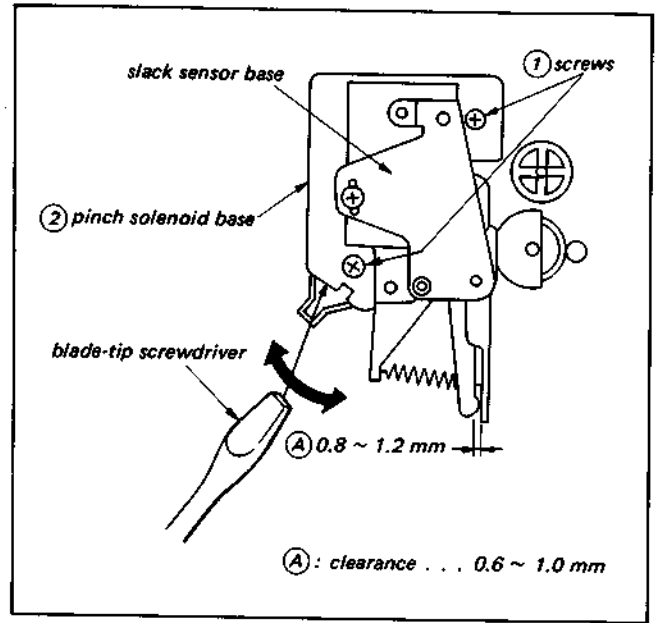

Fig. 3-25. Position adjustment of pinch solenoid operation
- 2) Turn the two screws ①, shown in Fig. 3-25, 1/2-1/3 turn to loosen.
- 4) Insert a blade-tip screwdriver into the position indicated in the figure, move the pinch solenoid base ② in the direction of the arrow, and adjust so that the clearance at section A is 0.6-1 mm. Tighten screws ①.
- 2) Loosen the screw ③ shown in Fig. 3-25.